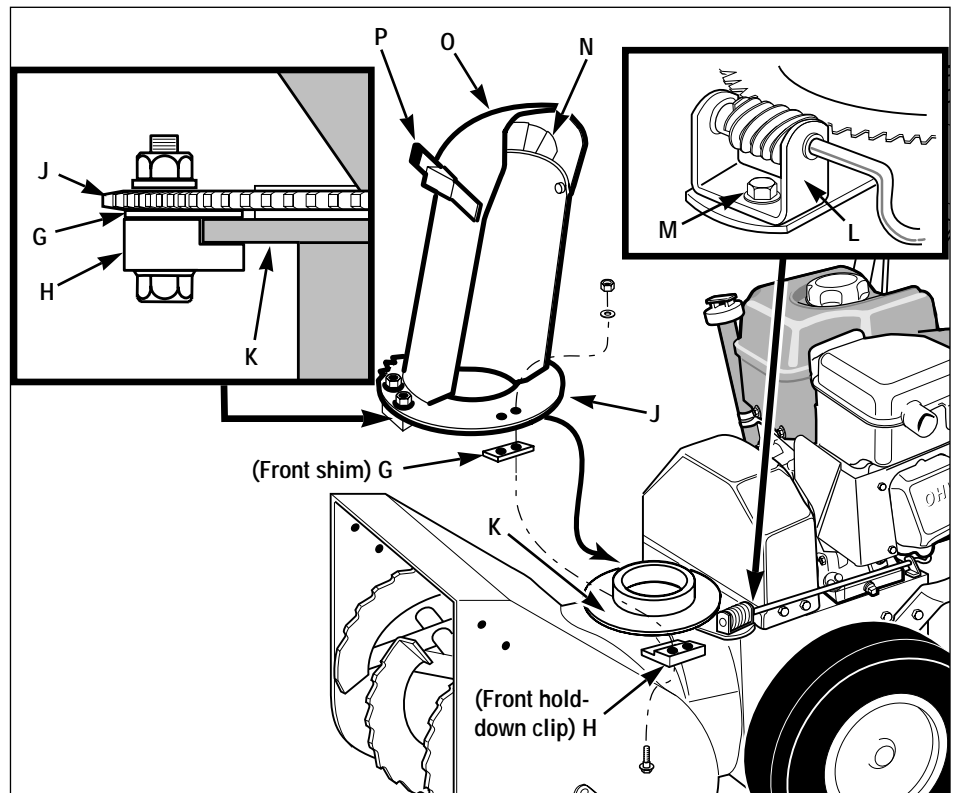
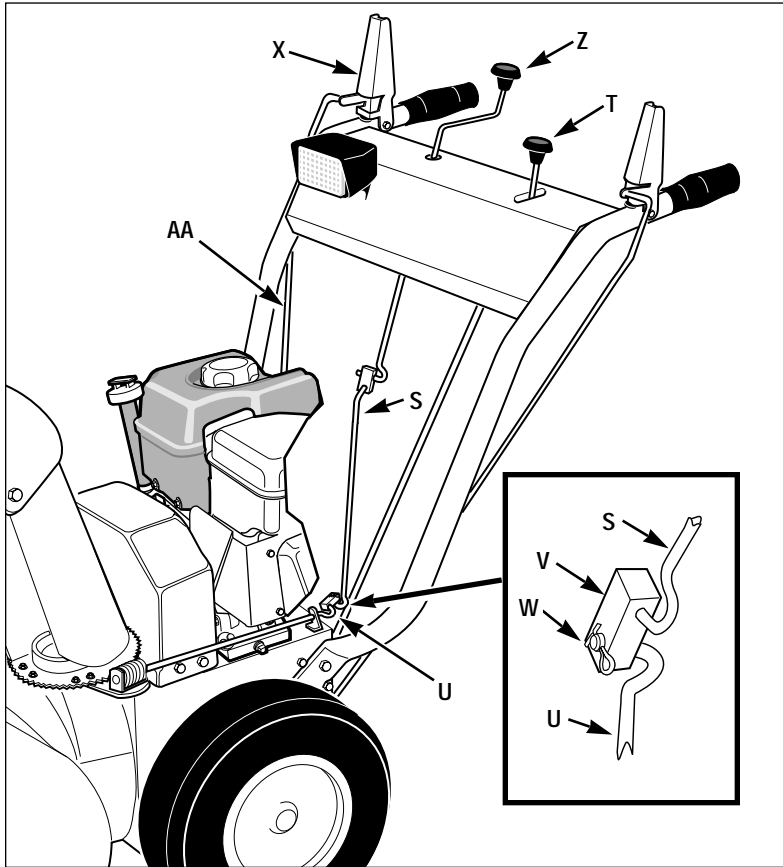
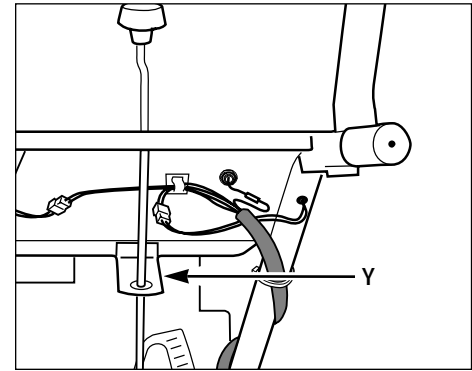
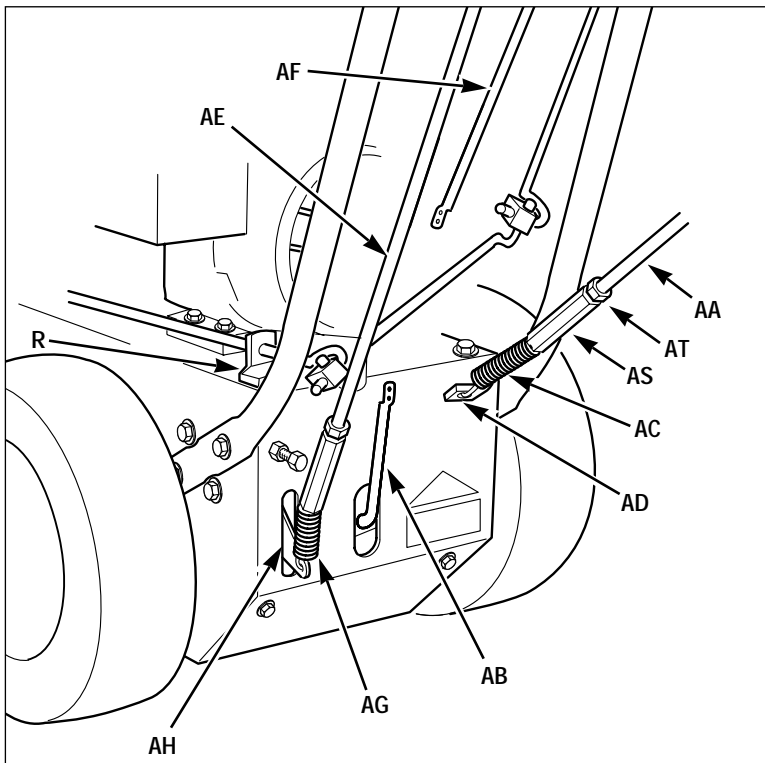

Figure 2-4
Figure 2-5
Figure 2-6
Figure 2-7
1. After removing cardboard carton, remove discharge chute (O, Figure 2-4) assembly (with attached hardware) from inside cardboard sleeve.
2. Loosen (do not remove) the left and right-side sets of plastic shims (G, Figure 2-4) and plastic hold-down clips (H) on the toothed flange (J) of the discharge chute assembly. Remove and save the remaining (front) hold-down clip, shim and mounting hardware.
3. From either side of the unit, slide the discharge chute onto the chute mounting flange (K, Figure 2-4), making sure that the plastic shims (G) are above the flange and the plastic hold-down clips (H) are below the flange. Tighten the clip mounting hardware securely (if necessary, rotate the discharge chute to the right to tighten the left-side clip).
4. Hook the front hold-down clip (H, Figure 2-4) under the mounting flange (K) and place the front plastic shim (G) on top of the hold-down clip, between the top of the flange and the toothed chute flange. Secure with the mounting hardware previously removed.
5. Remove the plastic tie that secures the worm gear assembly (L, Figure 2-4) to the mounting bracket.
6. Remove the washer and locknut from the screw (M, Figure 2-4) in the worm gear assembly (L). Position the worm gear assembly on the mounting bracket as follows:
- c. Reinstall the washer and locknut on the screw (M) and tighten securely.
7. Insert the flexible fins on the plastic snow deflector (N, Figure 2-4) inside the chute deflector cap (O). Close the deflector cap by pulling the lever (P) outward and moving the deflector cap down. Release the lever to secure the deflector cap in one of the discharge angle selector holes.
1. Remove the plastic tie that secures the auger drive control rod (AA, Figure 2-5) to the right handlebar. Next, remove the plastic tie that secures the chute crank rod (short rod with plastic swivel blocks) to the auger drive control rod.
2. Pull the chute crank rod (Z, Figure 2-5) up through the top of the control panel.
3. Attach the chute control rod sections (S and U, Figure 2-5) as follows:
- a. Insert the angled end of the chute control rod, (U, Figure 2-5 inset) into the hole in the swivel block (V) that is attached to the end of the chute crank rod (S).
- b. Insert a cotter pin (W) through the hole in the chute control rod (U) and spread the ends of the cotter pin.
4. Position the chute control rod support bracket (Y, Figure 2-6) against the underside of the handlebar console as shown. Secure the bracket with the two #10–24 x 3/8" Phillips pan head screws and #10–24 locknuts supplied.
5. Rotate the chute control crank (Z, Figure 2-5). The discharge chute should turn freely, but with enough resistance to prevent free rotation of the discharge chute during snow removal operation. Adjust the worm gear assembly bracket (L, Figure 2-4) as necessary to prevent binding.
1. Remove the plastic tie that secures the auger drive control arm (AD, Figure 2-7) to the transmission shift arm (AB).
2. The auger drive control rod (AA, Figure 2-7) has been pre-adjusted at the factory. To avoid misadjustment, do not rotate the jam nut (AT, Figure 2-7) while completing the following steps.
3. Hold jam nut (AT) in place with a 7/16" wrench and use another 7/16" wrench to thread the adjusting thimble (AS) downward a total of 12 turns.
4. Raise Auger Drive Control Lever (X, Figure 2-5) all the way up. Then hook the spring (AC, Figure 2-7) at the lower end of the auger drive control rod (AA) into the hole in the auger drive control arm (AD).
5. Thread the adjusting thimble (AS, Figure 2-7) upward until it contacts the jam nut (AT). Using two wrenches, tighten the jam nut against the adjusting thimble.
6. Check that the spring (AC) is under the correct amount of tension by performing Steps 2 through 5 of *Auger Drive Belt(s) Adjustment* in Section 5 of this manual.
1. Remove the plastic tie that secures the wheel drive control rod (AE, Figure 2-7) and the gear shift control rod (AF) to the left handlebar.
2. Hook the spring (AG, Figure 2-7) at the lower end of the wheel drive control rod (AE) into the hole in the wheel drive control arm (AH). If necessary, raise the wheel drive control arm (AH) while attaching the spring.
3. Check that the spring (AG) is under the correct amount of tension by performing Steps 1 through 4 of *Wheel Drive Disc Adjustment* in Section 5.
1. Place the Gear Shift Select Lever (T, Figure 2-5) in the No. 5 position.